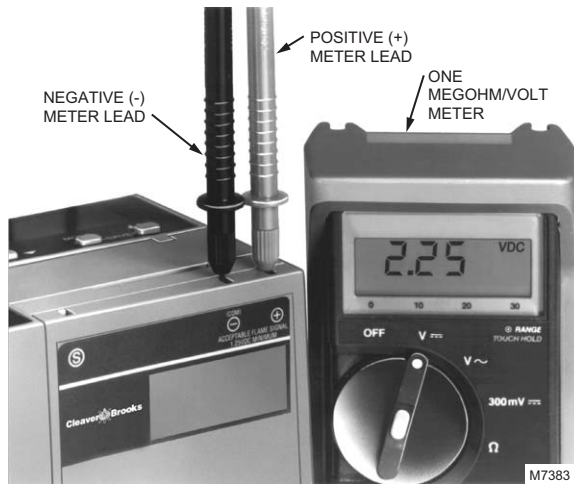

Fig. 47. Flame signal measurement.
Flame Signal Measurement (Table and Fig. 47)
3. Insert the positive (red) probe into the + jack of the flame amplifier. Insert the negative (black) probe into the (Com) jack of the flame amplifier; see Fig. 47.